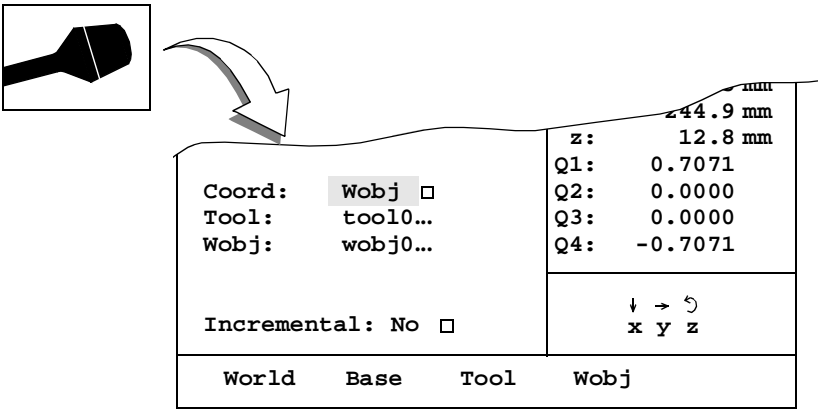

Figure 13 Specify the coordinate system in the Jogging window.
- Select the field **Coord** (see Figure 13).